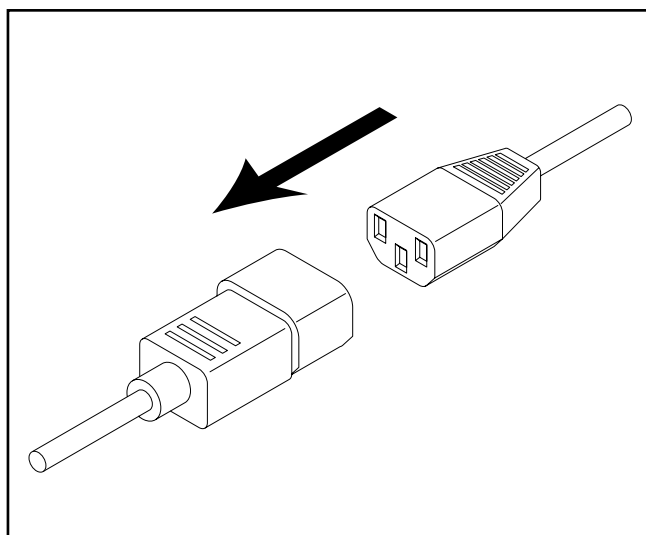

Figure 7. Plugging cords together.
1. The Model G1073/G1073Z motor and ON/OFF switch each have a special connector for ease of wiring. Plug the connectors into each other as illustrated in **Figure 7**.